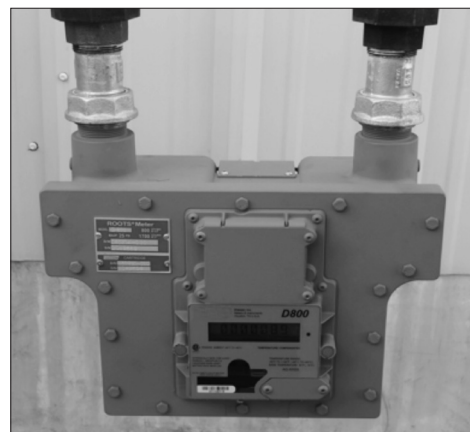

Figure 7.4 - Meter placed in line
6. In a correct installation, the meter index is parallel to the ground with both meter ferrules (spuds) pointing upward. Refer to Figure 7.4.